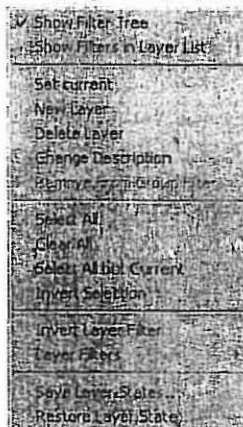

Fig.III-5. Dialog box
**DIALOG MODE** - In modal dialogs, or in dialog tabs, right click. (fig.III-5)